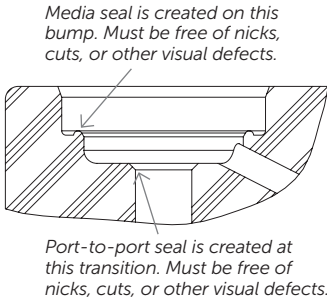

Figure 2.
⚠ CAUTION! Do not contact it with a brush, wipe, etc. as it may cause damage (see Figure 2).
4. Inspect the poppet seat for signs of damage and/or wear. Do not touch the poppet seat. Magnification may be required. If damage is evident, replace the entire manifold assembly (see Figure 2).